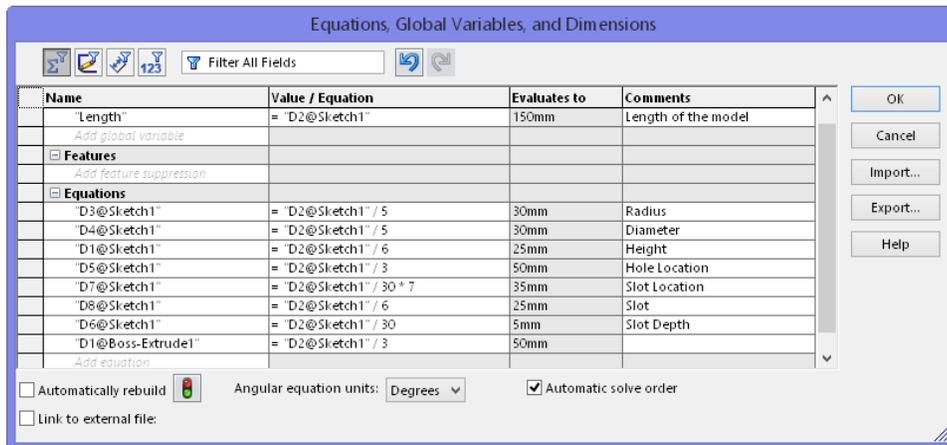

Figure 19-42 The Equations, Global Variables, and Dimensions dialog box after adding equations to extrude feature
4. Select the horizontal dimension value **150** in the drawing area. Next, press the forward slash (/) and enter **3** in the cell corresponding to this dimension value in the **Equation** node, refer to Figure 19-42.